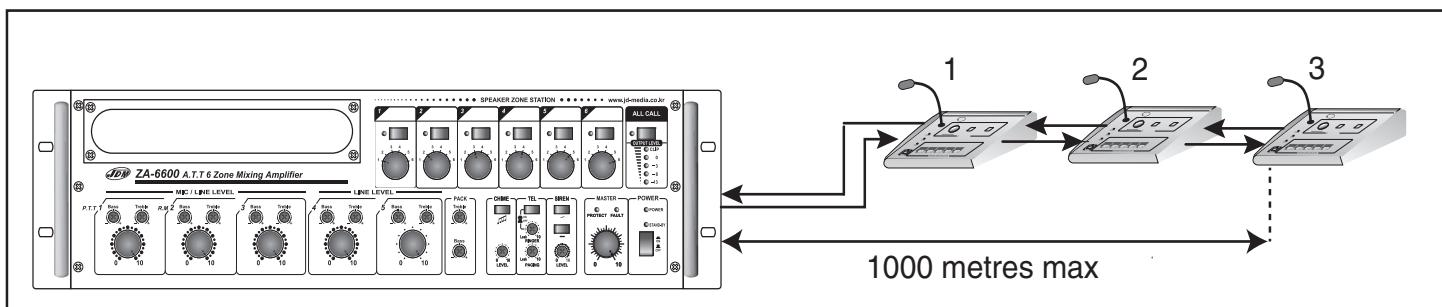

Figure 1: Wiring for optional multiple remote paging consoles - up to three units
7. LINK--OUTPUT – Power, data, audio and control signals are all transmitted and received along a pair of Cat5e UTP cables (RJ45 connectors). The combined total length of cable pairs from the amplifier to the last A 4353 paging console is 1000m. See Fig. 1.